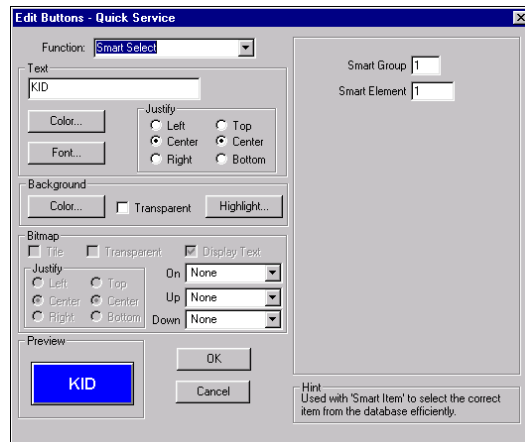

Figure 5-112 Smart Select Button Function
1. Select **Smart Select** from the **Function** drop-down list. Additional options display, as shown in Figure 5-112: